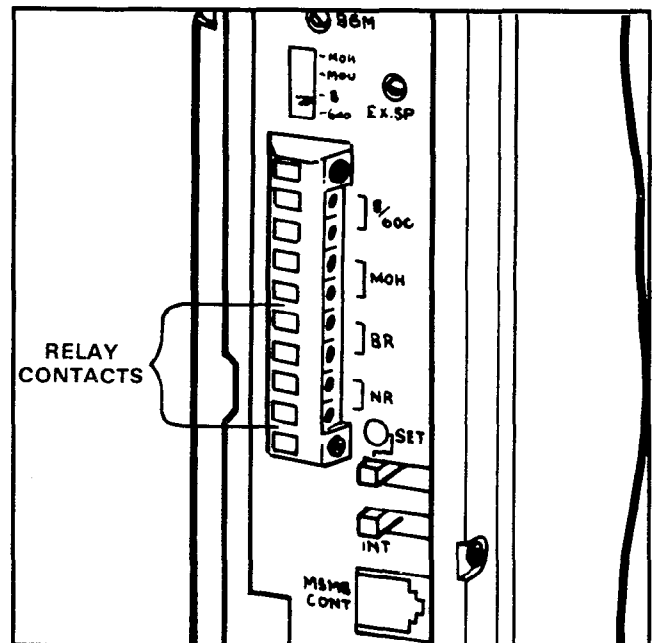

FIGURE 39—RELAY CONTACTS
10.92 To provide this service, connect the external device to the NR contacts on the left side panel (see Figure 39).